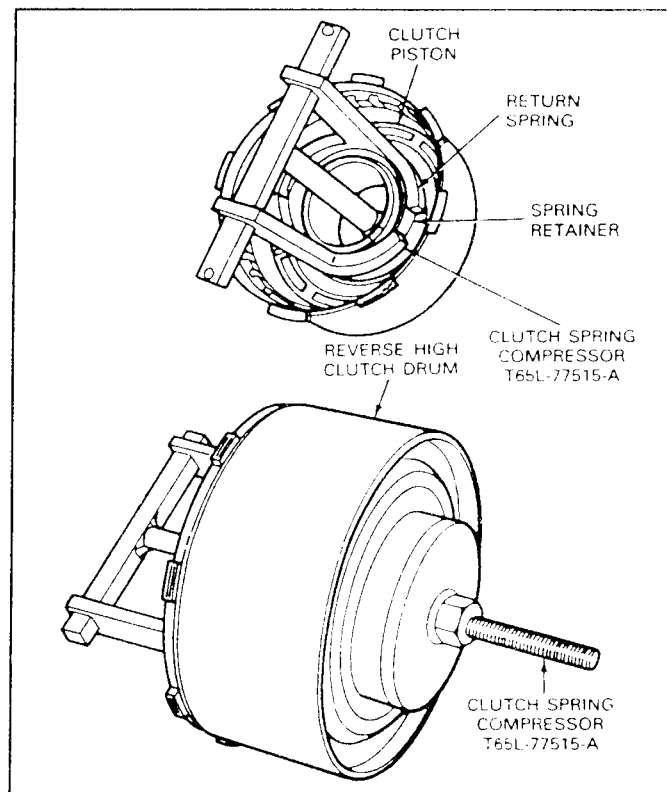

FIG. 41 Removing or Installing Reverse-High Clutch Piston Snap Ring
3. Install Clutch Spring Compressor, Tool T65L-77515-A (Fig. 41) on the reverse-high clutch drum. Make sure that the legs clear the snap ring enough to remove it. Remove the snap ring and remove the tool.
5. Install Clutch Spring Compressor, Tool T65L-77515-A (Fig. 41) and compress the springs. Make certain that the spring retainer is centered while compressing the springs. Install the snap ring. **Before releasing the pressure on the tool, make certain that the snap ring is positioned**